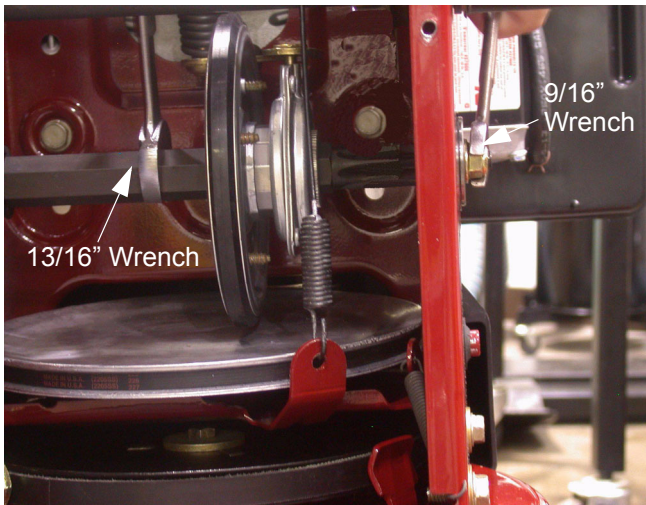

Figure 10.3
- 10.3. Remove the Bolt from the end of the shaft securing the hex shaft to the frame with a 9/16" wrench See Figure 10.3.